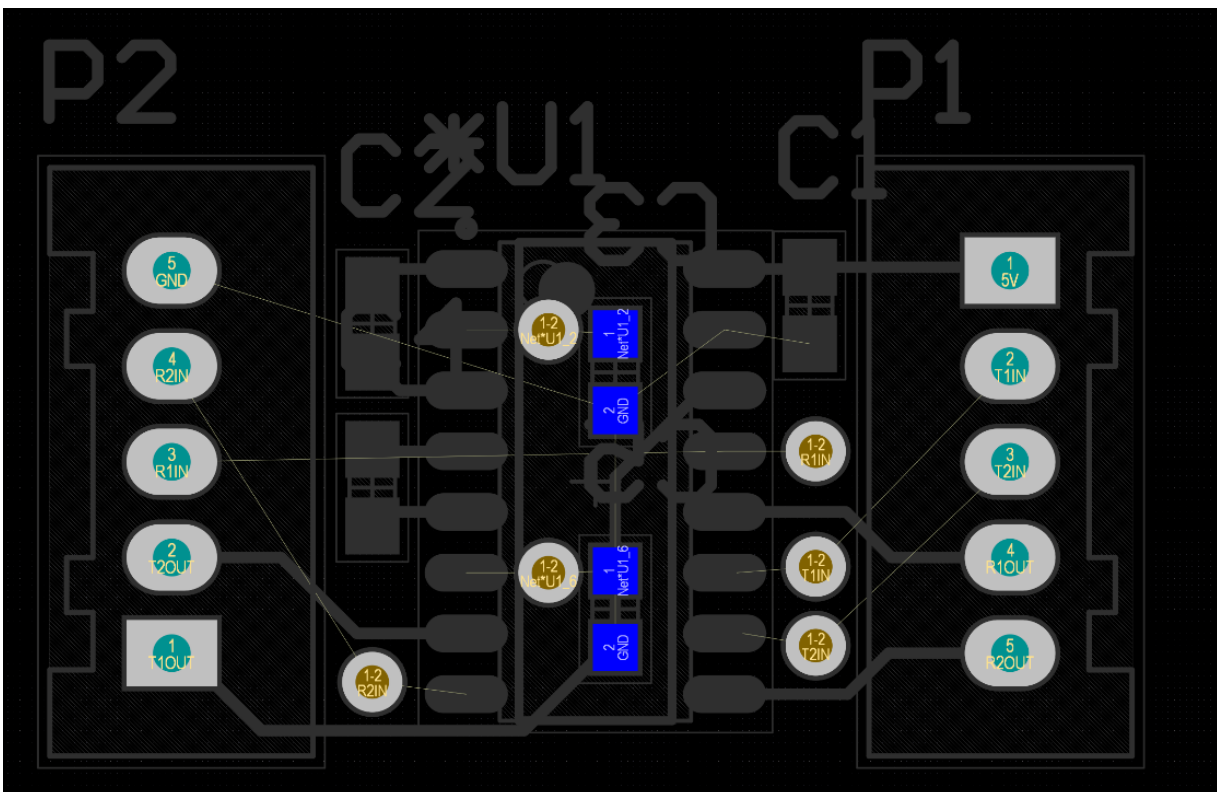

Figure 17: Bottom View of Fully Labelled Vias
29. If you labelled all your nodes correctly, you should have a layout similar to Figure 17. Notice how the net connections have now changed to include the vias.